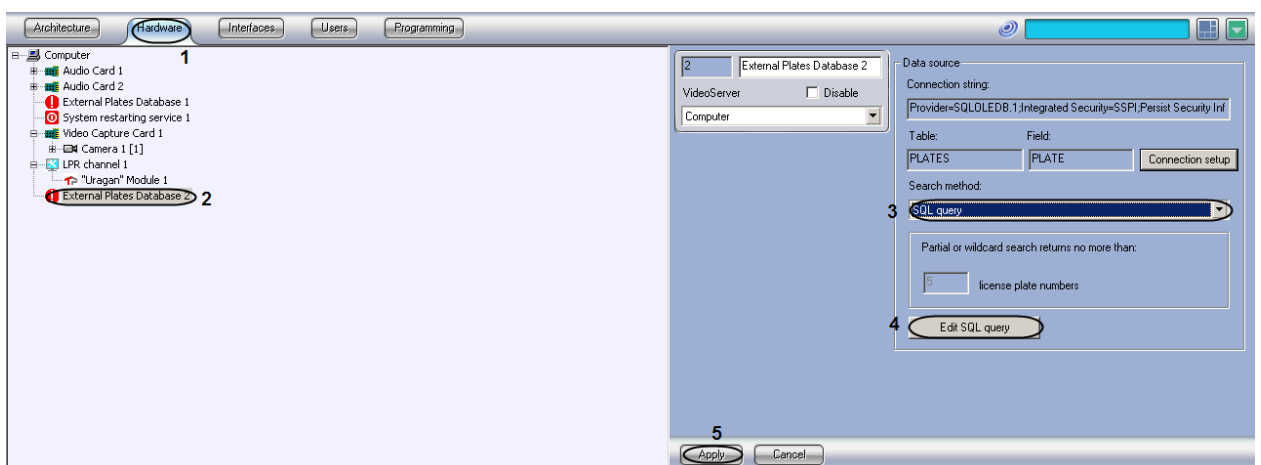

Fig. 7.5-12 Selecting the SQL-query set up
1. Go to Hardware tab of system settings dialog window (Fig. 7.5-12, 1).
2. Select the External Plates Database in the objects tree (Fig. 7.5-12, 2).
3. Select the value “SQL-query” from the list Search method (Fig. 7.5-12, 3).
4. Click the button Edit AQL-query (Fig. 7.5-12, 4).
- Click Apply (Fig. 7.5-12, 5).